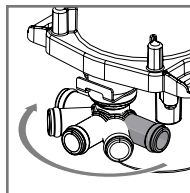

Figure 5.
10. If necessary, rotate heater suction port to attach supply hose (see Figure 5).